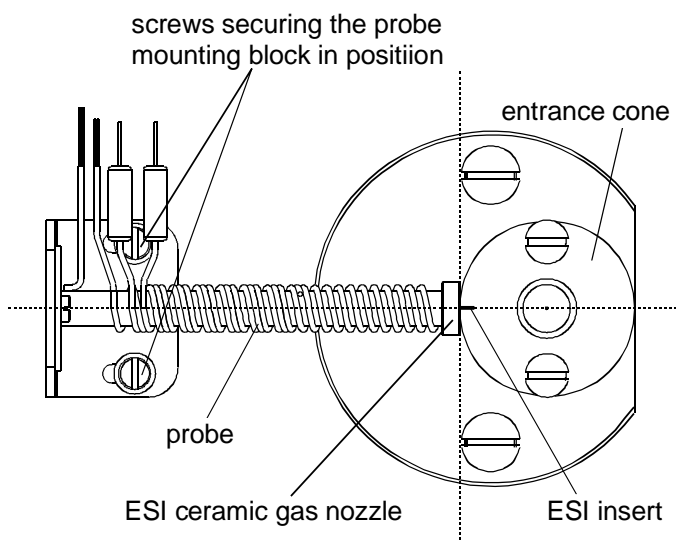

Figure 6-4. Aligning the probe
4. Align the probe on two axes (see Figure 6-4) so that: